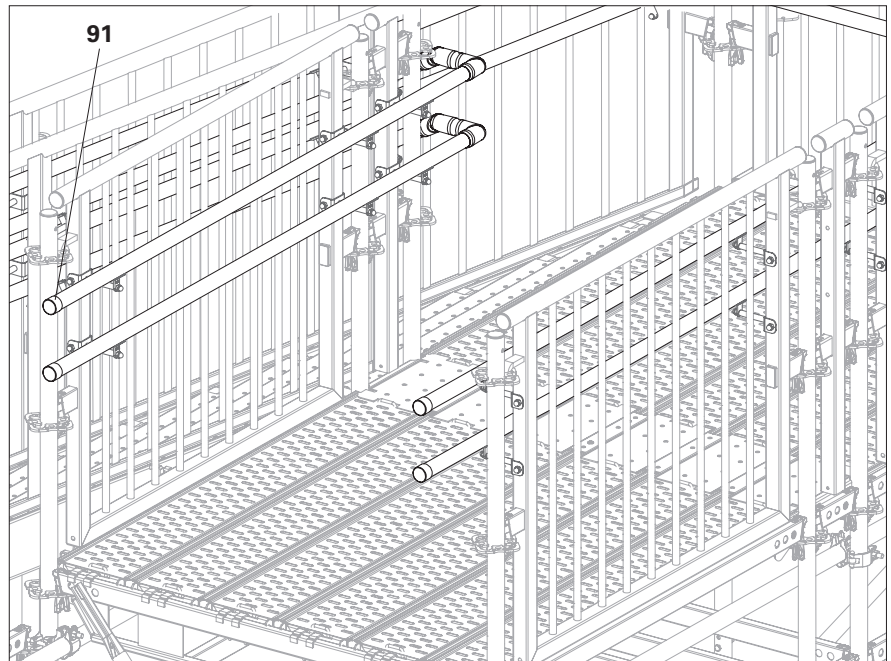

Fig. D2.08
1. Close the ends of the handrail tubes with Protect. Tube Clip 13-42.4mm (**91**). (Fig. D2.08)